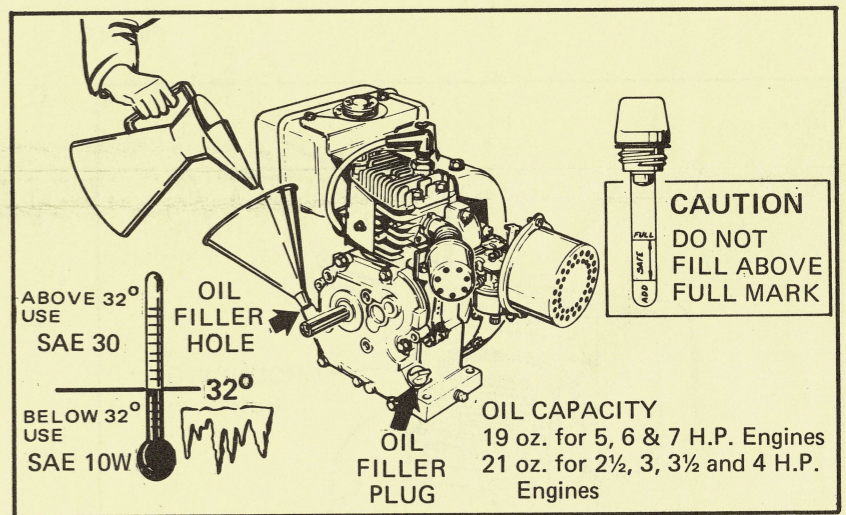

Figure 1
- 2. FILL CRANKCASE WITH FRESH CLEAN OIL. BE SURE MINI-BIKE IS SITTING LEVEL AND FILL SLOWLY TO AVOID TRAPPING AIR. FILL TO TOP OF FILLER HOLE AND REPLACE OIL FILLER PLUG SECURELY. IF ENGINE IS EQUIPPED WITH DIP STICK FILL TO FULL MARK ONLY. SEE FIG. 1